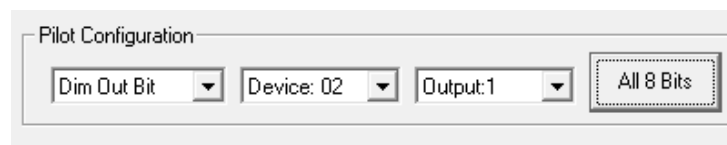

Figure 16 Dim Out Bit Pilot Setting for Dimmer Status
- Dimmer Value (0-100%) and Dim Bar Graphic will display the output state of the ILC dimmer and requires a separate LightSync device address for return data to the touch screen display. (Not the same address as the Slider type control input/photo sensor). In the LightLEEDer panel programming the return data device as a Photosensor -2 second input, the Pilot Configuration is set for “Dim Out Bit”, “Device 0#” for the dimmer device to be tracked and “Output #” on the dimmer module. Then activate the “ALL 8 Bits” selection (Data for all 8 LS LED are used for the return data). Example pilot return set for Dim Out Bit, Dimmer Device 02, Output 1, All 8 Bits as shown in Figure 16